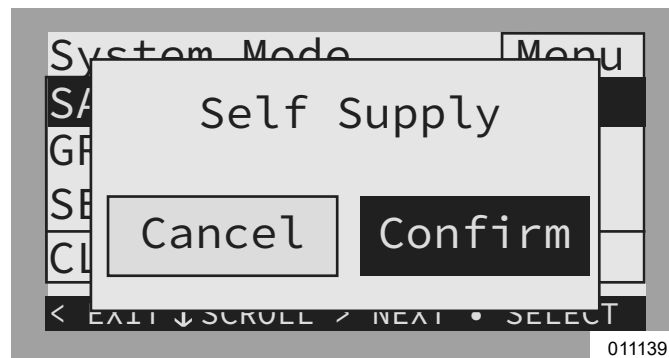

Figure 6-5. Selecting System Modes (3 of 4)
4. See Figure 6-5. Arrow right and press the center button to select Confirm.